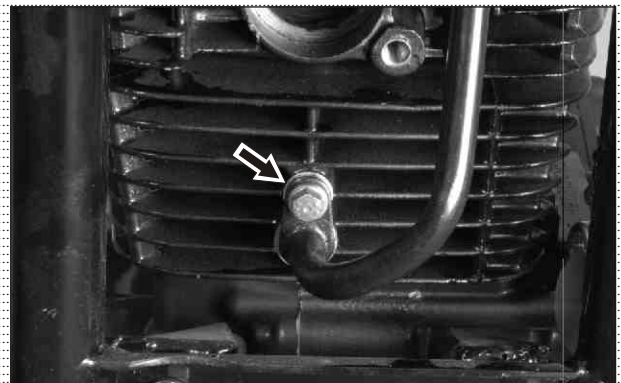

Fig. 3.40
- Remove hexagonal screw (M6x16 - 1 no) along with spring washer and take out pipe complete secondary air injection along with the 'O' ring. (Fig. 3.40)